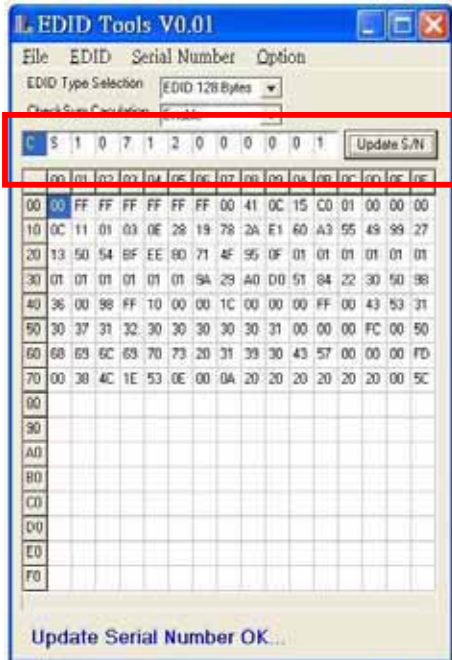

Fig.8
4. Modify Serial Number then Press “Update S/N” button as shown in Fig.8.